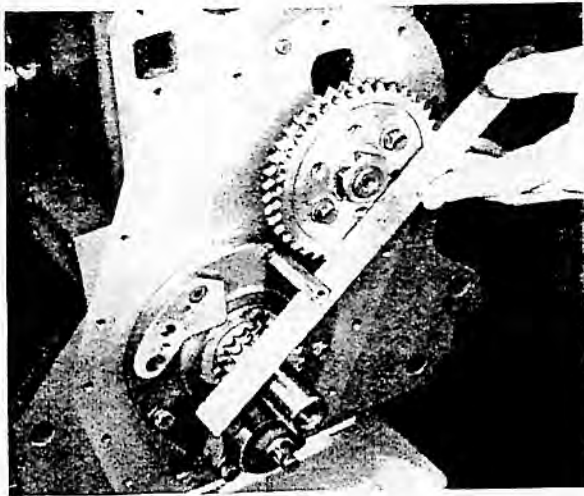

FIG. 134 CHECKING ALIGNMENT OF TIMING SPROCKETS
4. Loosen off adjusters and replace rocker gear. If any of the chainwheels have been renewed, remove crankshaft chainwheel key then temporarily refit chainwheel by itself. Check crankshaft chainwheel alignment by placing a straight edge across the front faces of the wheels—see Fig. 134. Adjust by adding or subtracting shims behind the crankshaft chainwheel. Refit crankshaft chainwheel complete with key.